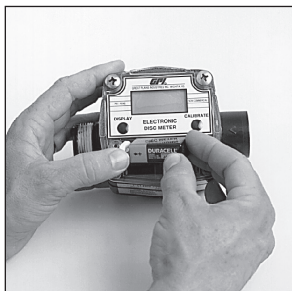

Figure 9
3. Remove the battery and, if necessary, clean corrosion from the battery terminals. (Figure 9) To prevent corrosion from condensation, coat the terminals with petroleum jelly.